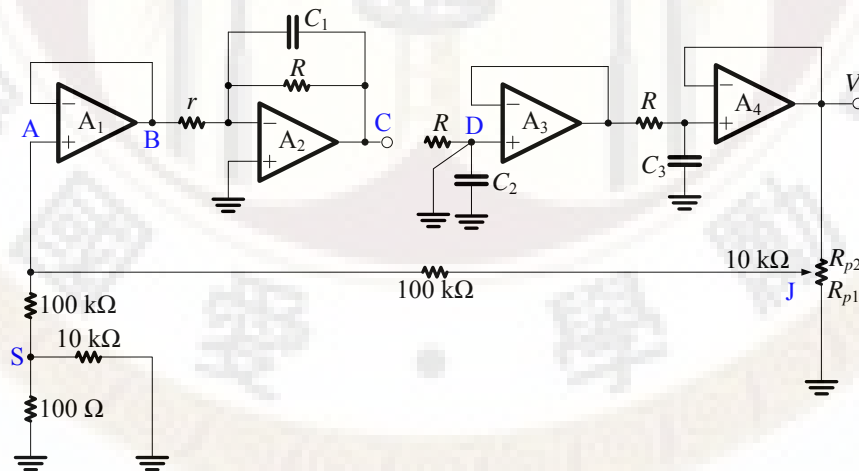

Fig. 5 DC Functional Confirmation of  $A_3$
- (1) In the Fig. 5, short terminal **D** to the ground.
- (2) Reference pin voltage for  $A_3$ ,  $V_{pin7} \doteq +15\text{V}$ ,  $V_{pin4} \doteq -15\text{V}$ ,  $V_{pin2} = V_{pin3} = V_{pin6} \doteq 0\text{V}$ .
- (3) Record the measured pin voltage for  $A_3$ ,  $V_{pin7} = \underline{\hspace{1cm}} \text{V}$ ,  $V_{pin4} = \underline{\hspace{1cm}} \text{V}$ ,